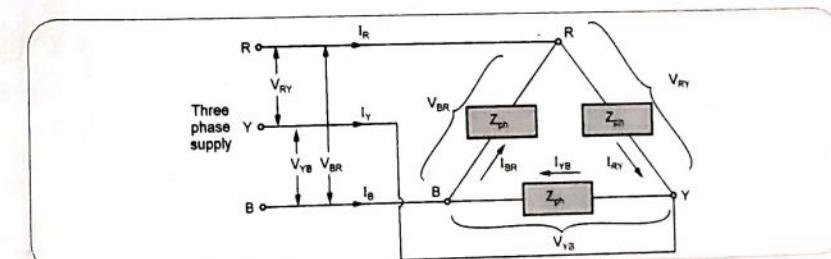

Fig. 4.10.1 Delta connected load
• Consider the balanced delta connected load as shown in the Fig. 4.10.1.
• To derive the relation between  $I_L$  and  $I_{ph}$ , apply the KCL at the node R of the load shown in the Fig. 4.10.1.